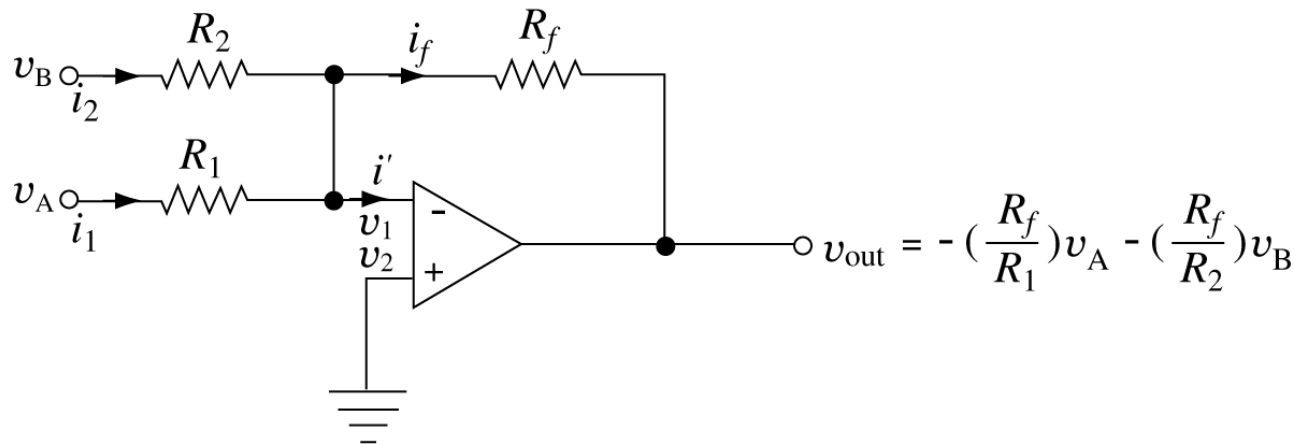

Fig. 3: Summing amplifier
- (1) Construct the summing amplifier shown in fig. 3, using resistor values $R_f \approx 8k\Omega$, $R_1 \approx 2k\Omega$ and $R_2 \approx 1k\Omega$. Use 12 V as supply voltage, unless instructed otherwise.
- (2) Apply a sinusoidal signal of about 200mV amplitude (from the function generator) to each input separately with the other grounded and measure the sign and magnitude of the amplification factor.
- (3) Then connect the same signal to both inputs and measure the output magnitude. Compare with predicted values (do they agree *within errors*? Estimate how precisely you measure the gain, and how precisely you can predict the gain).
- (4) Apply a sinusoidal signal to both inputs; vary the amplitude of the input signal from 100mV to 1.3V (in 100mV steps) and measure the gain (i.e. ratio of amplitude of the output signal and amplitude of input signal). Plot the output amplitude as a function of the nominal output signal amplitude (i.e. the output signal amplitude expected from the formula given in fig.3). Estimate uncertainties on measured and expected signal size and gain. Describe your observations, and try to explain what you observe.
- (5) Change the supply voltage to 10V (both positive and negative), and repeat the measurements of (4) for 100mV, 300mV, 500mV, 800 to 1300mV input signal amplitude.
- (6) Restore the supply voltage to 12V. For a fixed input amplitude (about 0.5V), measure the *gain* (v_{out}/v_{in}) as a function of frequency of the sinusoidal, from about 500Hz to the maximum frequency available on the function generator. Take data for 3 frequency values per decade. Discuss the frequency dependence of the gain, and establish a relation between it and the observations of items (7) and (8).
- (7) Instead of a sinusoidal signal, use a triangular wave and a square wave as input, and observe the output waveforms for three frequencies (lowest, highest, and a value in the middle of your range). Draw the waveforms and comment on your observations.
- (8) Set the frequency of the function generator to about 1kHz. Measure the rise time of the square wave signal (both input to and output from the amplifier). Relate your measurements to the slew rate of the opamp (see the data sheet) and the frequency dependence of the gain.